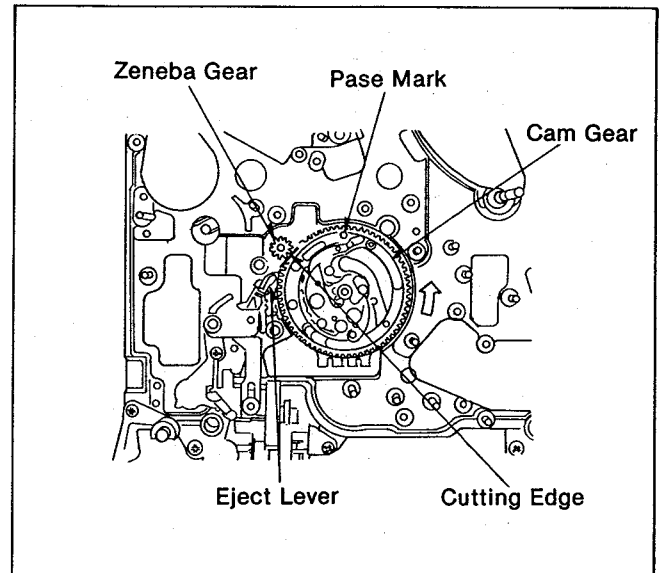

Fig. M3
- (1). Install a Cam Gear so that phase mark on the Cam gear, with its point turned up, and then insert the Cut washer as shown in Fig.M3.